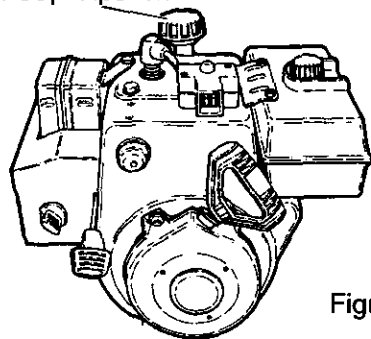

Figure 17
Check the crankcase oil level before starting the engine and after each five (5) hours of continuous use. See Figure 17. Add S.A.E. 5W30 motor oil as needed. Tighten fill cap/dipstick securely each time you check the oil level.